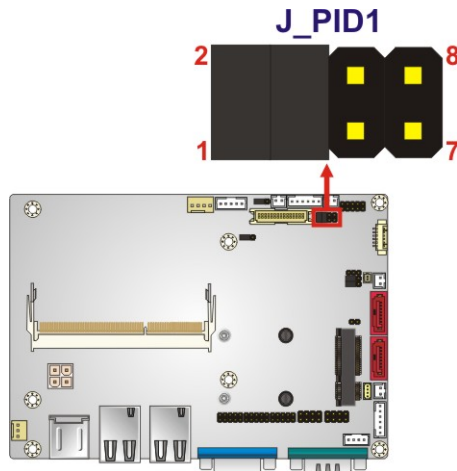

Figure 4-6: LVDS Panel Resolution Selection Jumper Location
- Jumper Location:** See Figure 4-6